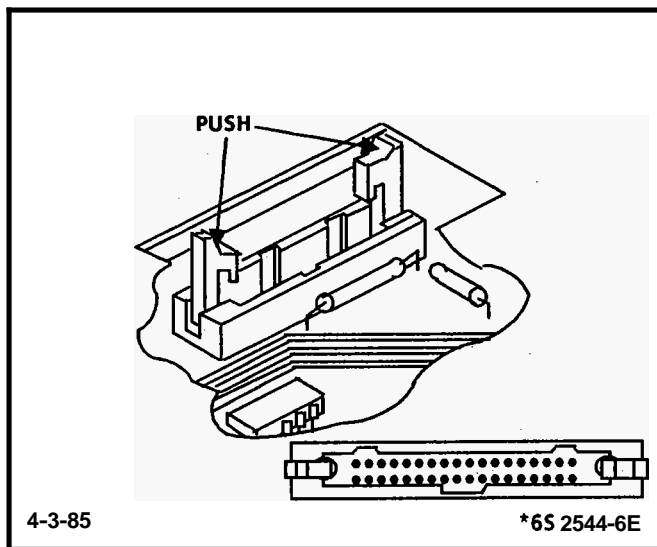

Figure C1-12 - Mem/Cal Unit Socket
7. Mem-Cal Removal. (Fig. C1-12)